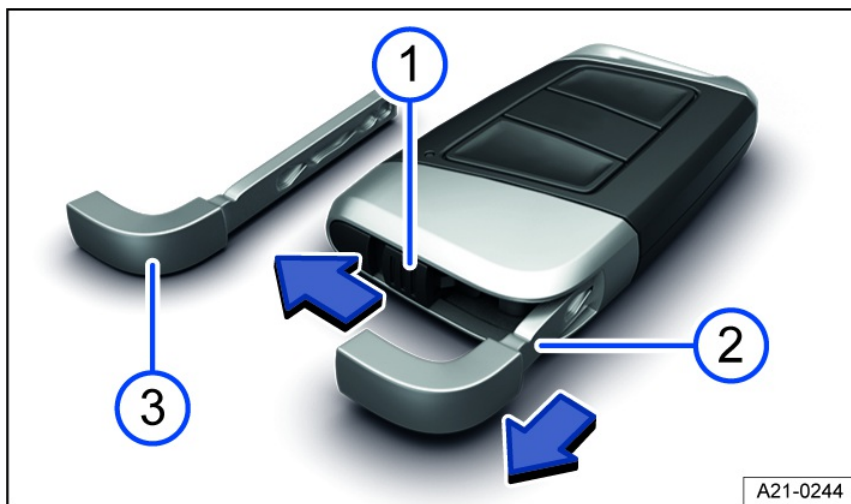

Fig. 48 Vehicle key: Unlocking the emergency key (general example).
- ① Push the locking mechanism in the direction of the arrow.
- ② Remove the emergency key in the direction of the arrow.
- ③ Emergency key.
There may be an emergency key fig. 48 ③ located in the vehicle key that can be used to manually unlock and lock the vehicle.